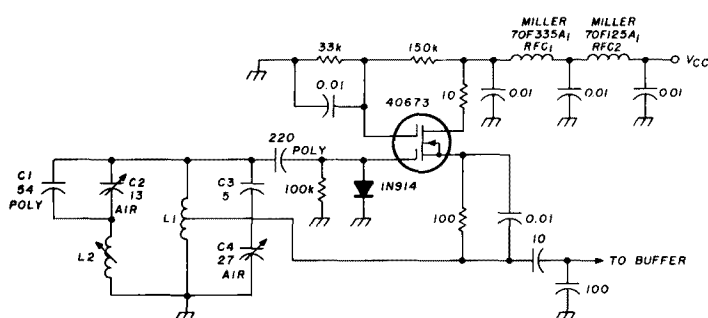
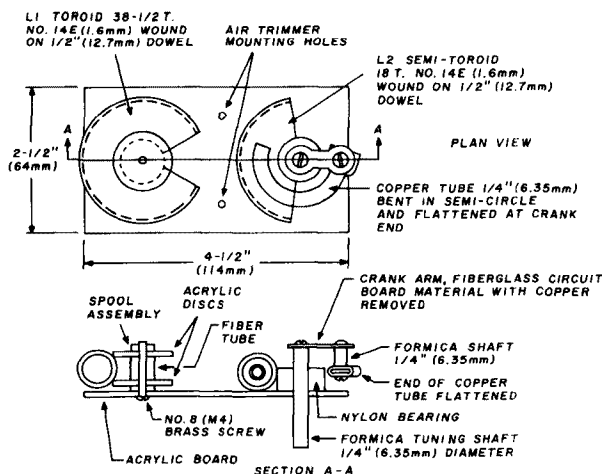
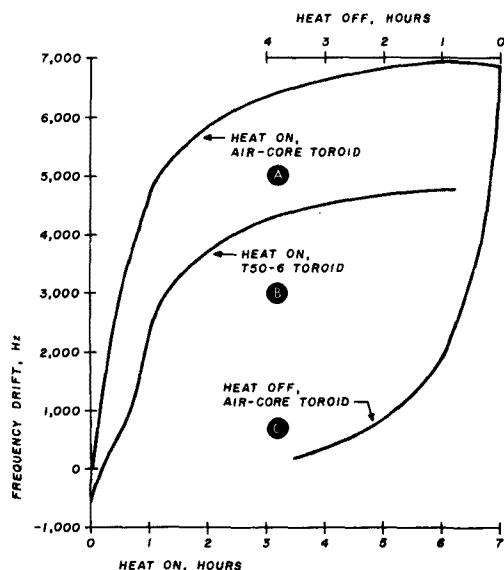

fig. 12. Circuit of inductance-tuned Hartley VFO H-2. L1 and L2 are described in text. C4 is for calibration setting.
fig. 13. Coil board for copper-vane VFO. The etched circuit board is of the same size and is mounted above on 1-inch (25.4 mm) brass spacers.
fig. 15. 5-MHz heat runs on VFO H-2 with copper-vane tuning unit.
In the design of the iron-vane VFO of fig. 9, the main inductance coil for each frequency is a powdered-iron toroid. Hoping to increase the temperature stability of the system, I decided to sacrifice some compactness and eliminate powdered-iron cores altogether. The main inductance coil now became an air-core toroid. The series tuning coil became an air-core half-toroid into which was rotated a sickle of copper tubing which, through eddy-current action, decreased the inductance (and also the *Q*) of the semi-toroid as more of the sickle was rotated into the coil. The effect was the opposite of that experienced with the iron-vane VFO. As a further innovation I decided to use the simpler Hartley circuit of fig. 2. Fig. 12 is the circuit of my test VFO H-2. The earlier H-1 was similar.
Coils L1 and L2 of fig. 12 are shown mounted on an acrylic coil board in fig. 13; their construction is described below.
Some of the circuit components were undoubtedly more temperature sensitive than others and some might have even had temperature coefficients of opposite senses. There was, of course, no simple way of knowing when each circuit component reached what temperature, nor which ones were doing what during the transient warmup process. Besides, to reach a single equilibrium temperature took the better part of a day. The best thing I could do was to plot frequency drift *versus* time for the procedure described above and repeat the test under the same thermal conditions after making changes in the components in which I was interested. These components were usually L1 and L2 of fig. 12. In tests of both iron-vane and copper-vane tuning units, I always placed each vane in the position of closest coupling with its coil. I assumed that polystyrene capacitors and air trimmers were consistent in their temperature behavior, and spent only a little time on mica capacitors, which apparently differ one from another.1
**Test results.** In fig. 15, curve A shows frequency drift *versus* time at 5 MHz, with the 40-1/2-turn air-core toroid as L1 and the 18-turn copper-vane tuning unit as L2 (fig. 12 circuit). C1 was a 220-pF polystyrene capacitor in parallel with one of 27 pF. The frequency drifted upward to 4700 kHz in the first hour, but it was not until the start of the sixth hour that the peak of 6900 Hz had been reached.
Curve C (fig. 15) is for the same oscillator but with the powdered-iron toroid in the L1 position. I was surprised to note that, after a small negative excursion, the frequency had drifted to only about 4700 Hz in six hours. There was later evidence, however, that the air-core toroid would have been more stable with a larger gap between the ends, although this did not make the air-core toroid competitive in the 9-MHz tests described below.
Fig. 15 and 16 are not directly comparable, because the air-core toroid was improved for the 9-MHz heat runs, as described above. Nevertheless, they do show that, contrary to expectations, the air-core toroids were not relatively immune to temperature changes. From the viewpoint of relative stability over hours, the combination of C might be termed best, with B next best. From the viewpoint of the first 20 minutes, B seems the most stable. However, the steep negative excursions of B and C are worse than the steep positive excursion of curve A, in the first few minutes after start.